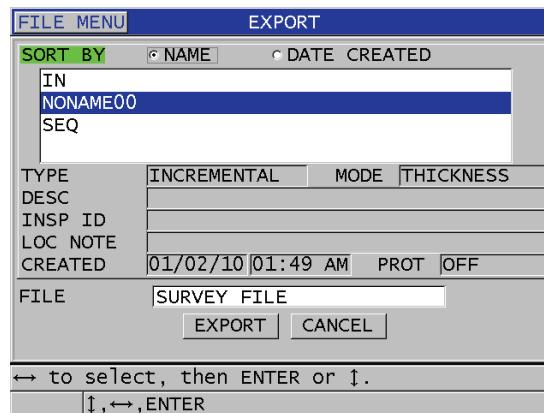

Figure 14-5 The EXPORT screen
5. In the **EXPORT** screen (see Figure 14-5 on page 244):